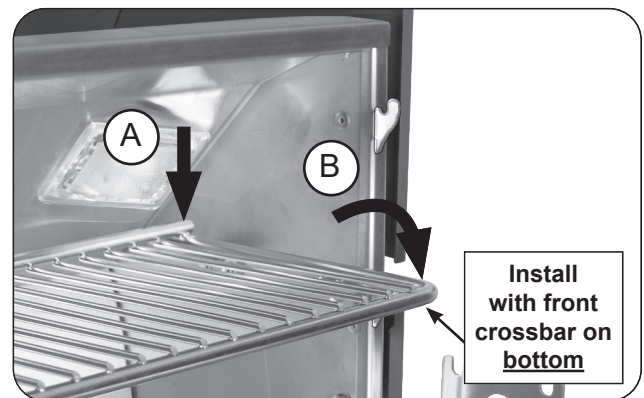

Fig. 25-3 Place warming rack for use
2. With the warming rack oriented as shown, carefully rest the rear of the rack onto the rear support plates (see Fig. 25-3, A), then lower the warming rack arms onto the lower hooks for use (see Fig. 25-3, B).